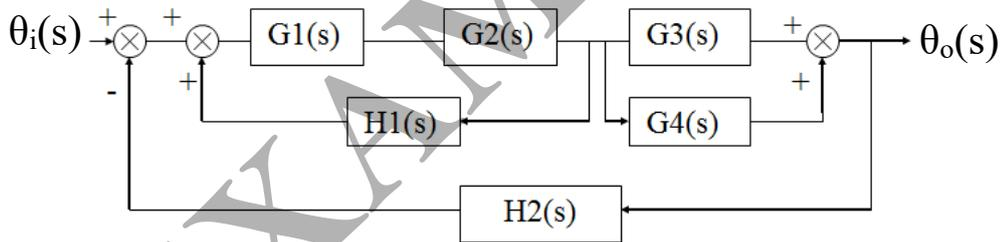

Figure Q4 (a) A robot control system, where $\theta_i(s)$ is the input and $\theta_o(s)$ is the output.
- ii) A robot control system can be represented by the block diagram shown in Figure Q4(a). Using block diagram reduction techniques, find the θ_o for this control system if a unit step input is applied. **[14 marks]**